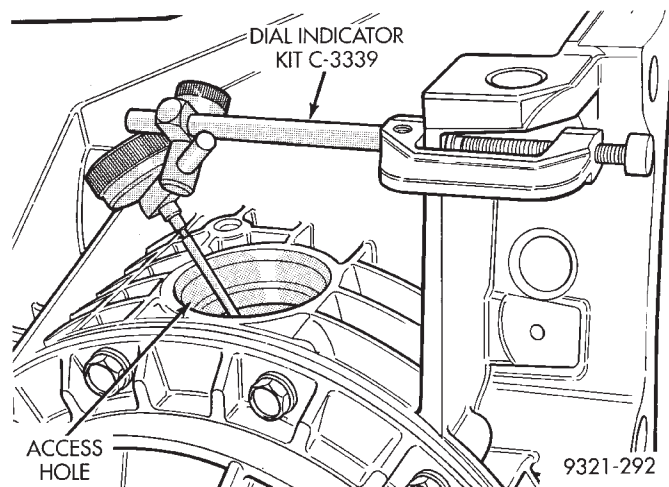

Fig. 292 Dial Indicator Installation
(56) To check and/or adjust backlash, remove the inspection plug from the top of the differential. Install dial indicator as shown in (Fig. 292). The tip of the dial indicator must be perpendicular against one of the ring gear teeth. Hold transfer shaft with locking pliers. Move ring gear back and forth with special tool 6548. Read the amount of backlash with